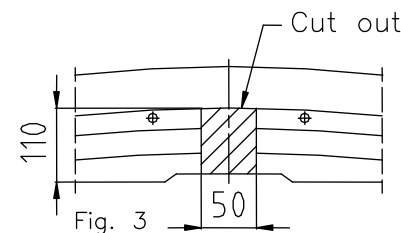

Fig. 3
3. To the left and right chassis member slip sleeve $L=85$ mm (pos. 10), see fig.
4. To drilled holes put sleeves $L=51,5$ mm (pos. 9).
5. To the inside of chassis members and rear part of the car put brackets (pos. 4 and 5) and fix using bolts $M10 \times 120$ mm (pos. 13) through sleeves and bolts $M10 \times 35$ mm (pos. 15) through nuts on the jib (pos. 8).
6. Put the main bar of the towing hitch (pos. 1) on protruding elements (bolts) of removed metal reinforcement and fix using original nuts $M8$ (from reinforcement) and using $M10 \times 90$ mm (pos. 14) - see fig.
7. Elements of the towing hitch (pos. 6 and 7) fix loosely to the original tow handle, and next through holes (pos. A) of ball brackets fix using bolts $M10 \times 30$ mm (pos. 16).
8. Fix tow-ball (pos. 2) with socket plate (pos. 3) using bolts $M12 \times 75$ mm (pos. 11) and $M12 \times 70$ mm (pos. 12).
9. Assemble a cover plate and a bumper (cut out its fragment – see fig. 3 and 4).